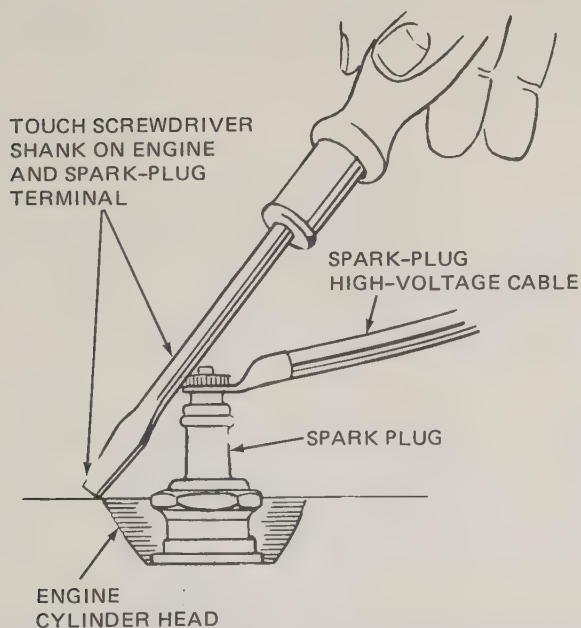

FIG. 26-35 Use a screwdriver to short out each spark plug in turn.
**Engine Runs but Misses—One Cylinder** You can locate a missing cylinder on a multicylinder engine. Use a screwdriver to short out each cylinder spark plug in turn with the engine running at various speeds (Fig. 26-35). The screwdriver should have an insulated handle so that you do not get shocked. Short out the spark plug by putting the screwdriver from the spark-plug terminal to the cylinder block. This prevents a spark from occurring in the spark plug and causes the cylinder to miss.